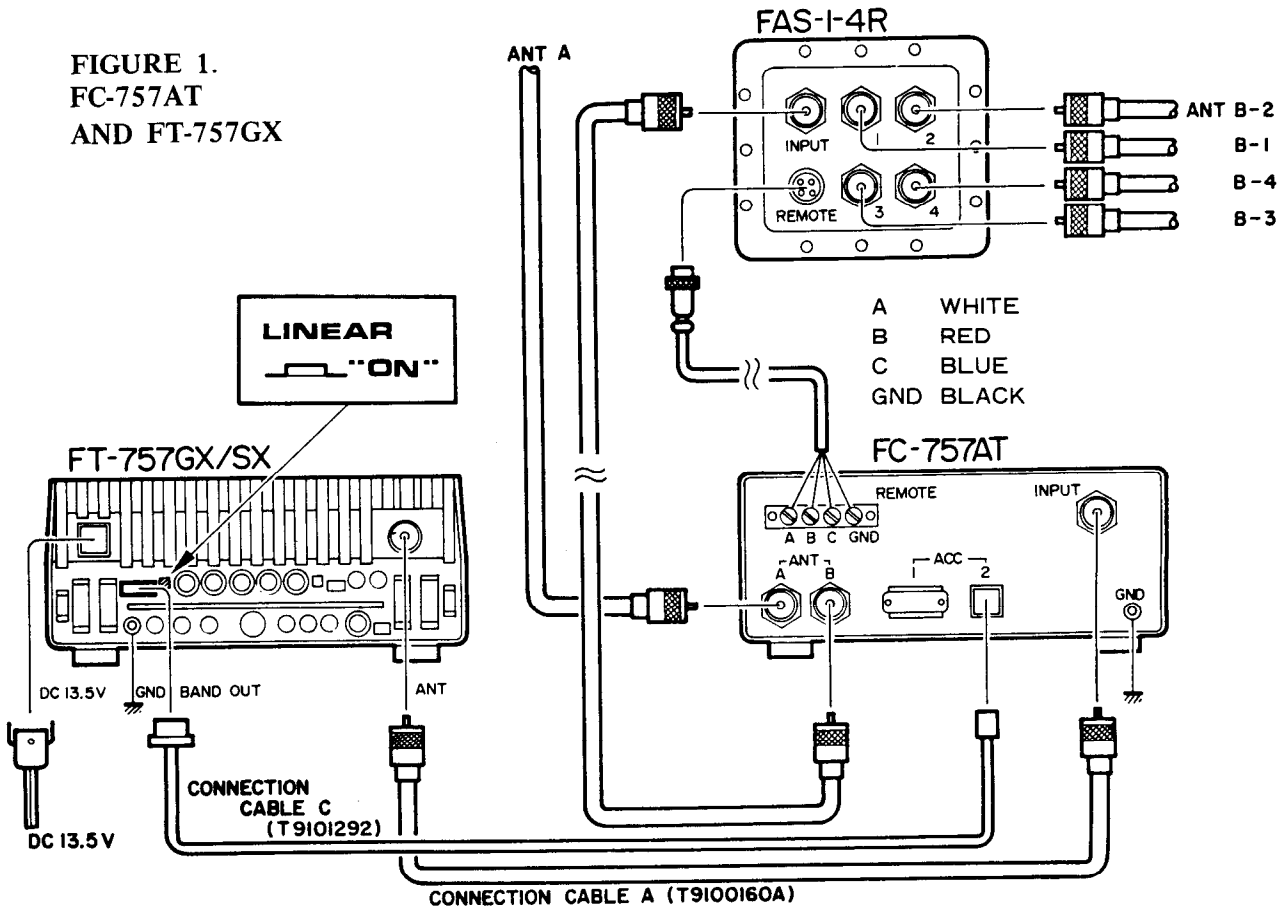

FIGURE 2.
2. Referring to Figures 2 and 3, cut the small end of each weather sleeve to the correct size to provide a tight fit around the cables being used – one for each coax and one for the control cable. Then slide the sleeves over the cables and solder the wires to the connectors. The wiring of the control cable is indicated in Table 1.